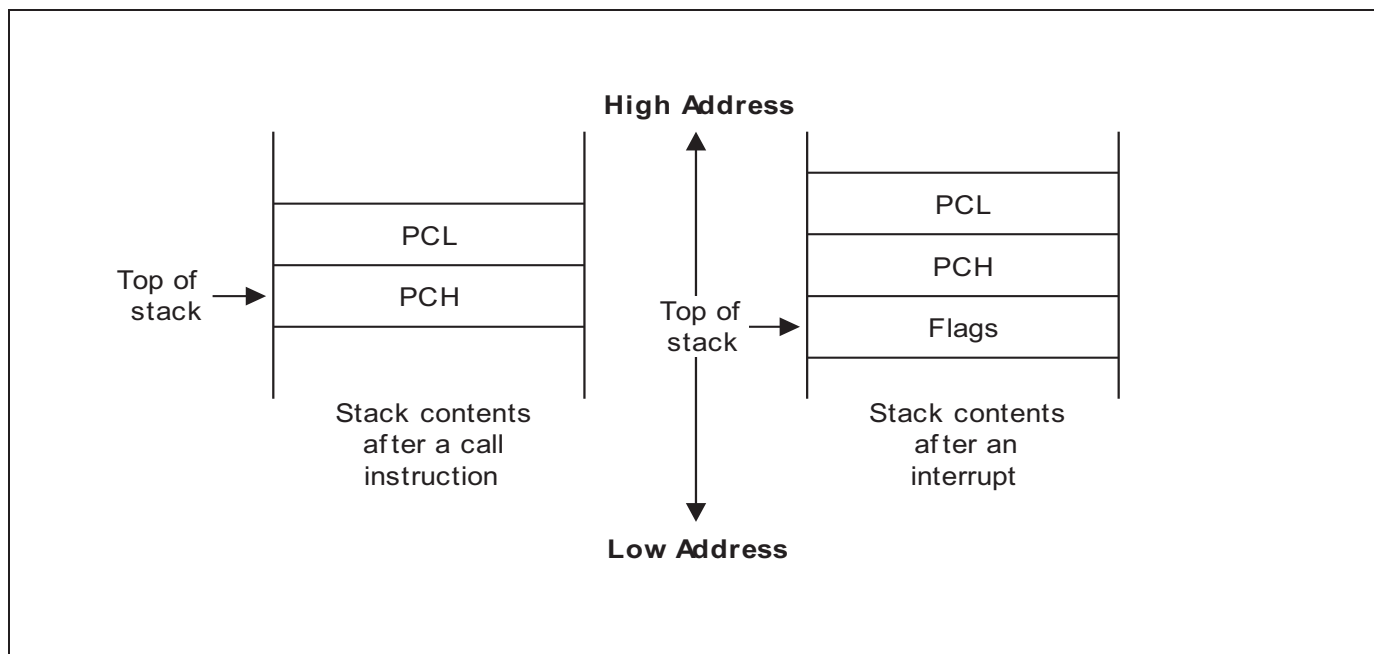

Figure 2-16 Stack Operations
It stores return addresses for procedure calls, interrupts, and data on the stack. A CALL instruction saves the contents of the PC to stack and RET instruction restores. When an interrupt occurs, it pushes the contents of the PC and the FLAGS register to the stack. The IRET instruction then pops these values back to their original locations. It always decreases the stack address value by one before a push operation and increases by one after a pop operation. The stack pointer (SP) always points to the stack frame stored on the top of the stack, as Figure 2-16 illustrates.
Figure 2-16 illustrates the stack operations.